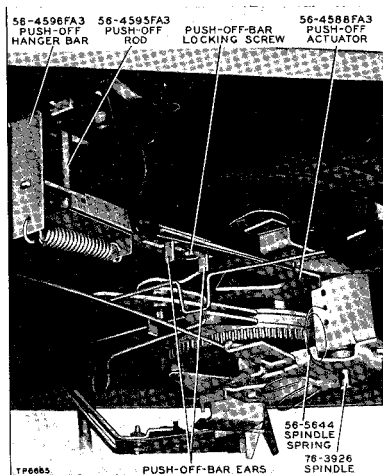

Figure 21. Push-Off Adjustment, Showing Push-Off Actuator in Contact with Roller on Cam Gear
Push the REJ.—AUT.—MAN. control to REJ., and rotate the turntable  $2\frac{1}{2}$  revolutions, by hand; at this point, the push-off actuator, Part No. 56-4588FA3, is in its most forward position, in contact with the roller on the cam gear; see figure 21. Loosen the push-off-bar locking screw, shown in figure 21. Squeeze the push-off-bar ears toward each other to the point where the slider blade on the record shelf extends  $\frac{1}{32}$ " beyond the lips of the shelf. Tighten the hex-head locking screw.
- Unhook both ends of spindle spring, Part No. 56-5644, from "U"-shaped bracket mounted under changer base plate (figure 21).
- c. Press push-off rod, Part No. 56-4595FA3, and push-off hanger bar, Part No. 56-4596FA3 (figure 21), together and pull downward, to release the entire assembly.
- Remove flat spring, Part No. 56-4778FA38, by sliding it laterally through underside of button (figure 21).